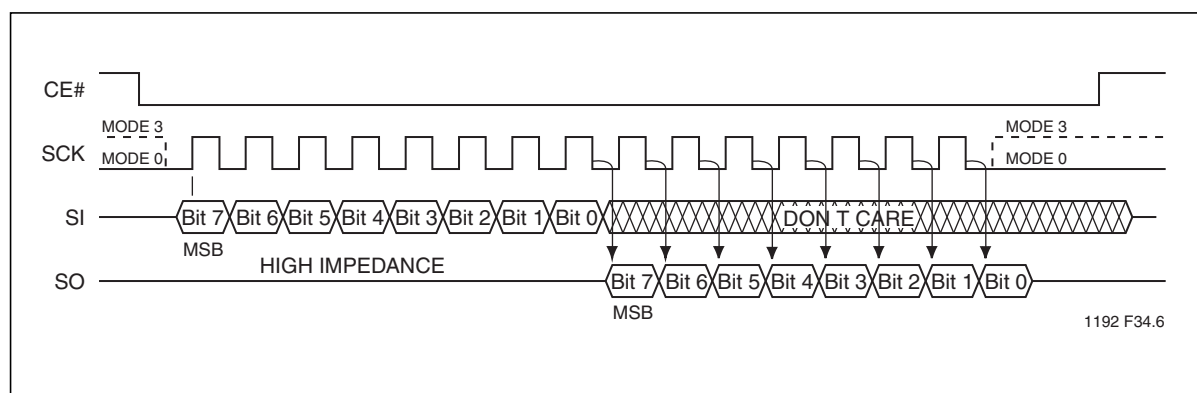

Figure 2: SPI Protocol
The SST25VF512 supports both Mode 0 (0,0) and Mode 3 (1,1) of SPI bus operations. The difference between the two modes, as shown in Figure 2, is the state of the SCK signal when the bus master is in Stand-by mode and no data is being transferred. The SCK signal is low for Mode 0 and SCK signal is high for Mode 3. For both modes, the Serial Data In (SI) is sampled at the rising edge of the SCK clock signal and the Serial Data Output (SO) is driven after the falling edge of the SCK clock signal.